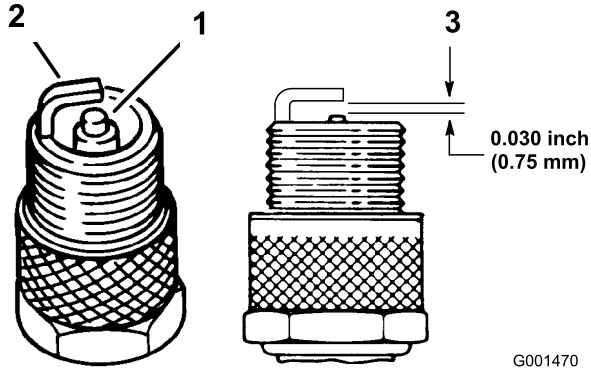

Figure 30
1. Look at the center of the spark plugs (Figure 30).
3. Check the gap between the center and side electrodes (Figure 30).
Note: Bend the side electrode (Figure 30) if the gap is not correct.
3. Connect the wires to the spark plugs (Figure 30).